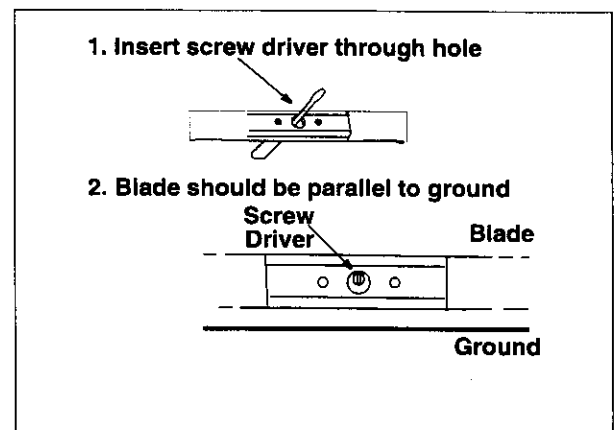

Figure 21
- An unbalanced blade will cause excessive vibration when rotating at high speeds and may cause damage to the unit. The blade can be tested for balance by balancing it on a round shaft screwdriver or nail. Remove metal from the heavy side until it is balanced evenly. See figure 21.